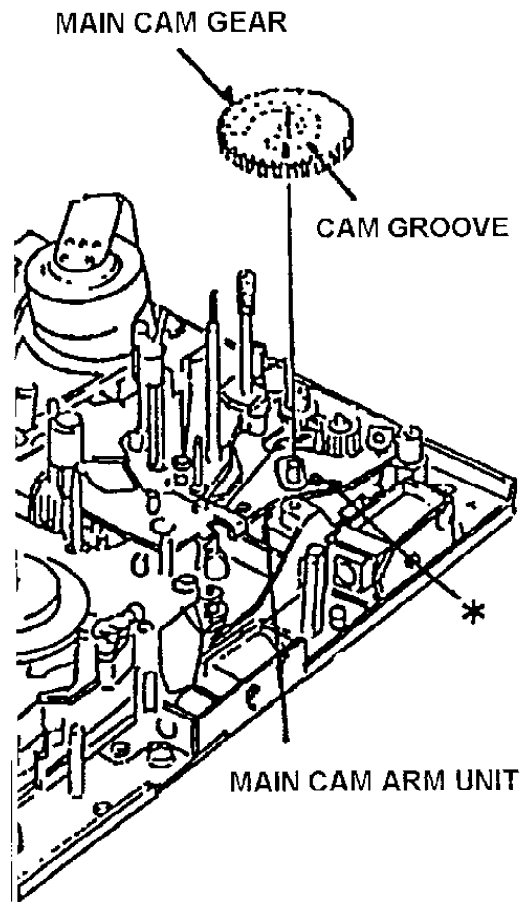

Fig.6-11-1 Removal of Main Cam Gear
3. Remove the Pinch Solenoid Unit (Refr to item 6-7) and Loading Motor Neutral Unit (Refer to item 6-9).
4. Remove the Main Cam Gear as shown in Figure 6-11-1.
1. Install the Main Cam Gear, then the pin of Main Cam Arm Unit (*) should be matched with the groove position of Main Cam Gear as shown in Figure 6-11-1.
3. After installation, Pinch Solenoid Position Adjustment is required (Refer to item 5-2).